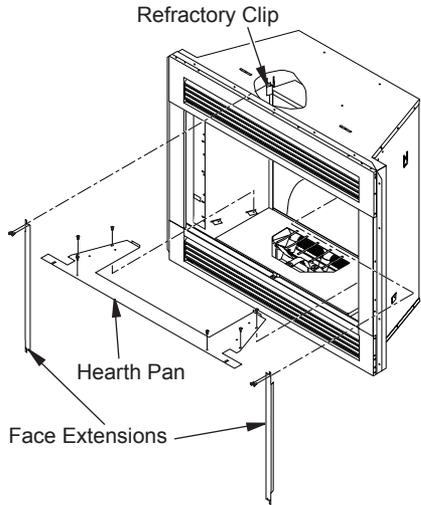

Figure 32 - Removing Hearth Pan and Face Extensions (Extensions for E32 Series Only)
3. Remove 4 Phillips screws holding hearth pan to fireplace and 2 screws located at lower frame rail (see Figure 32).
5. Remove 4 Phillips screws holding face extensions at top refractory clips (see Figure 32).